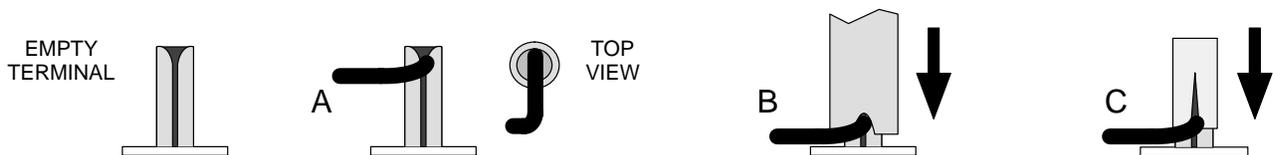

Figure 8 Wire Terminal Connection (Detail)
Figure 8 shows how to connect each wire. (A) Do not strip the wire. Place the wire into the terminal slot so that the end of the wire is flush with the inside of the terminal. (B) Using the proper insertion tool, press the wire fully into the terminal. (C) Plastic caps are supplied with the Tap. Press a plastic cap down fully into the terminal.